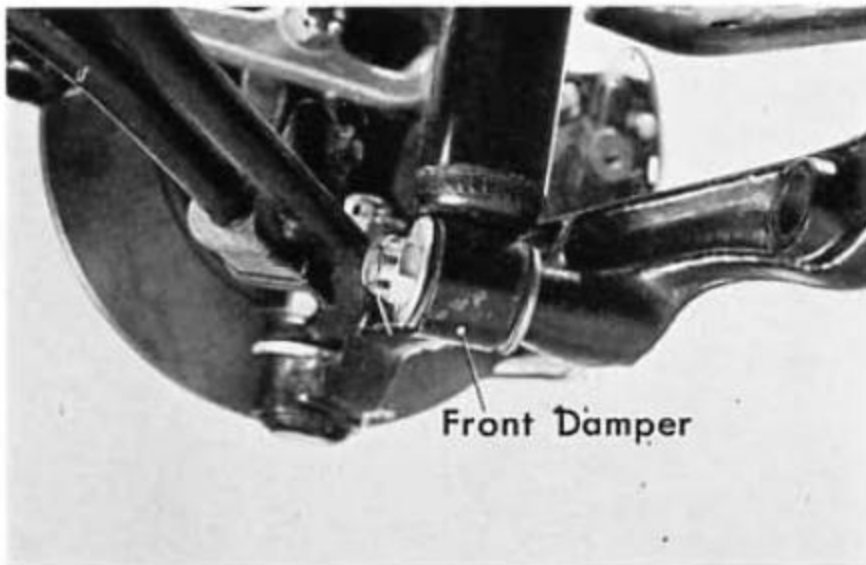

Fig. 15B-5
5. Assemble the front damper on the lower arm by installing the damper washer, nut and cotter pin (Fig. 15B-5).